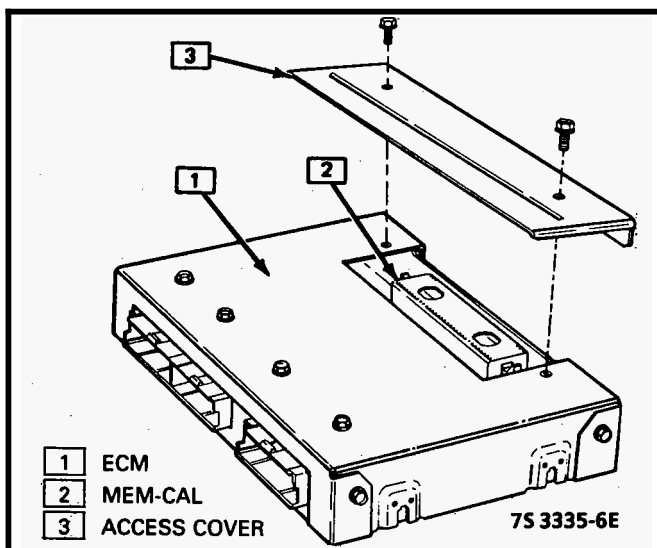

Figure C1-11 - ECM 2.8L
6. ECM Access Cover. (Fig. C1-11)